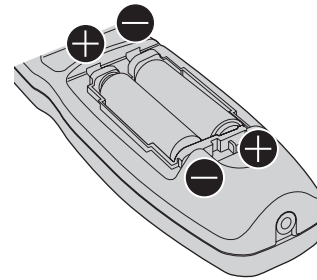

Fig. 2
- 2) **Insert the batteries and close the cover (insert the $\ominus$ side first). (Fig. 2)**